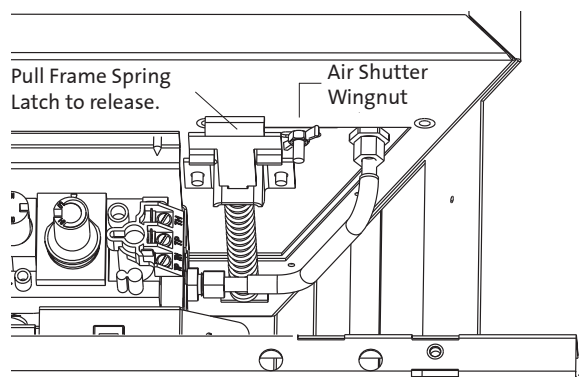

Figure 28. Frame latch and air shutter stem location.
- Loosen the locknut on the Air Shutter Stem, located under the firebox floor to the right of the Control Valve. This will allow you to disengage the Burner Tube. Fig. 28.